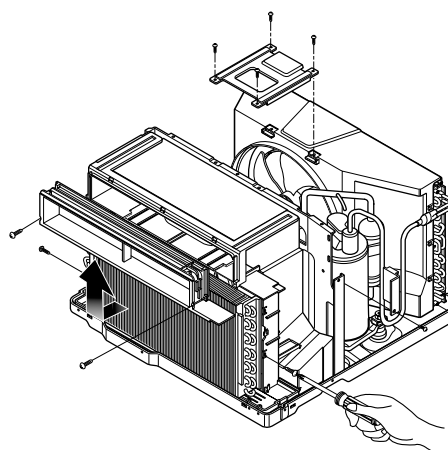

Figure 18
7. Remove the air guide upper. (See Figure 18)